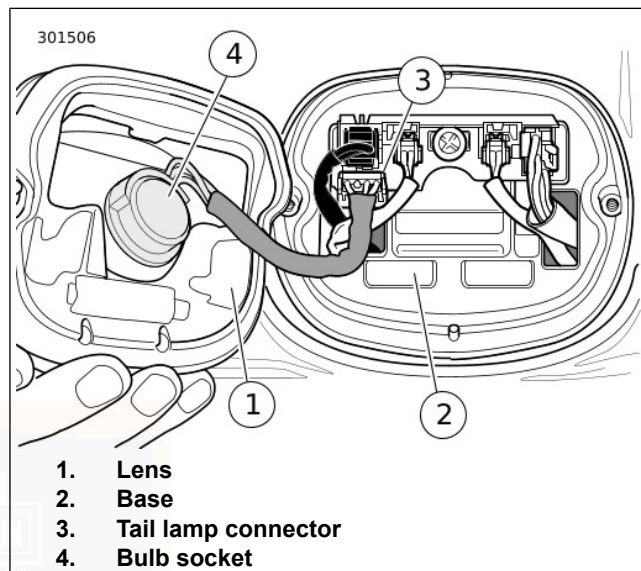

Figure 97. Tail Lamp Assembly
2. See Figure 97. Disconnect tail lamp connector (3).
3. Rotate bulb socket (4) a quarter turn counterclockwise and remove from tail lamp assembly. Remove bulb.
2. See Figure 97. Insert socket (4) into tail lamp assembly. Rotate a quarter turn clockwise.
3. Attach tail lamp connector (3).